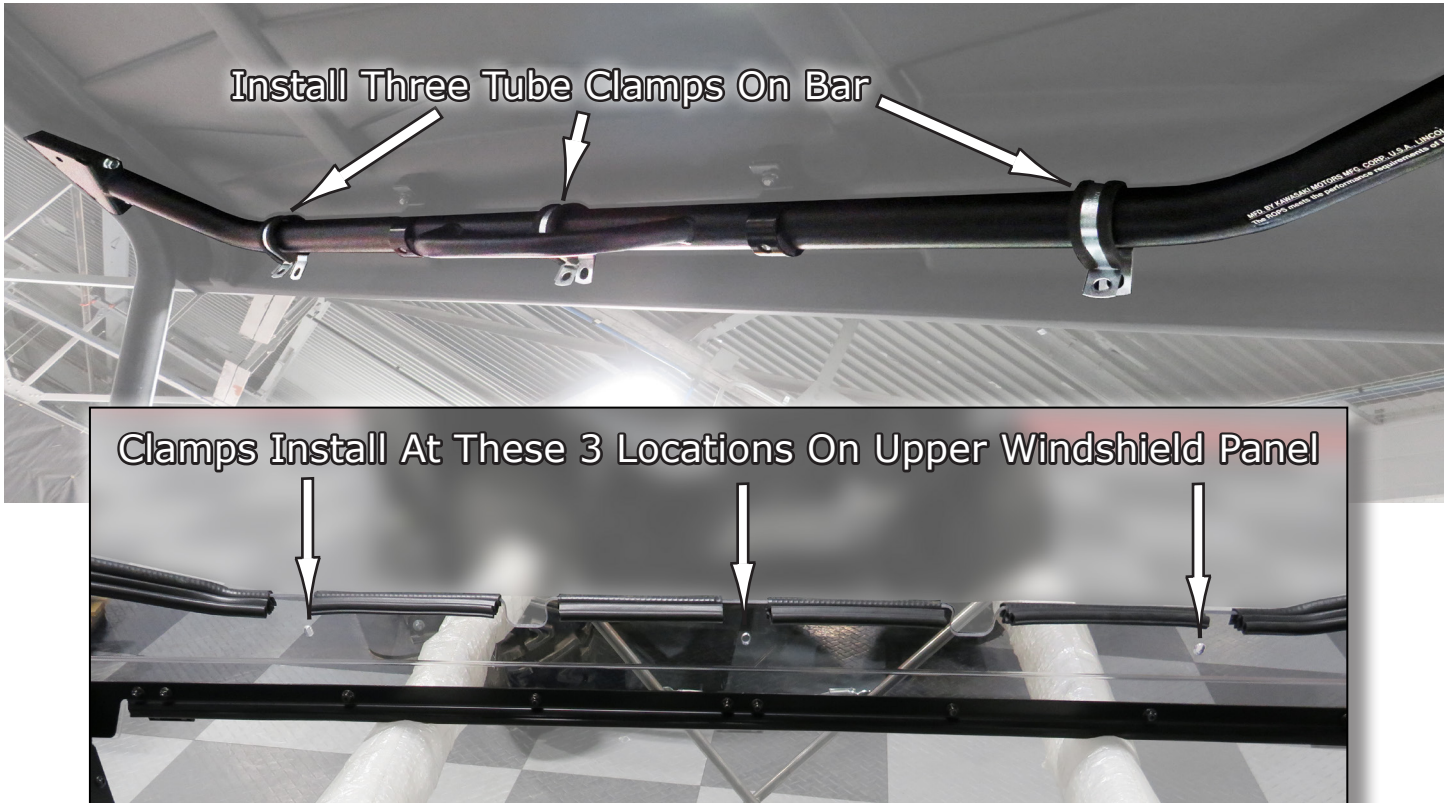

Fig.8
8. Next, install the three Tube Clamps, **Item "G"** on the top cross bar as shown in **Fig.8**, and let them hang there for now as you will align them up to the holes in the Upper Windshield panel in the next steps. **Fig.8** also shows where the clamps attach to the Upper Windshield Panel.